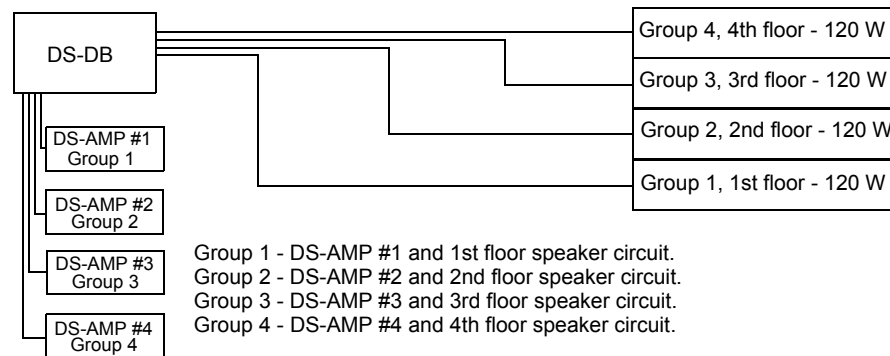

Figure D.1 DS-DB, One Amplifier and One Speaker Circuit per Group, No BDAs
1. Figure D.1 shows a DS-DB with four groups. Each of the DS-DB amplifiers (all DS-AMP's in this example) is in a group with a single speaker circuit that has a load not exceeding the amplifier's 120 watt capacity.